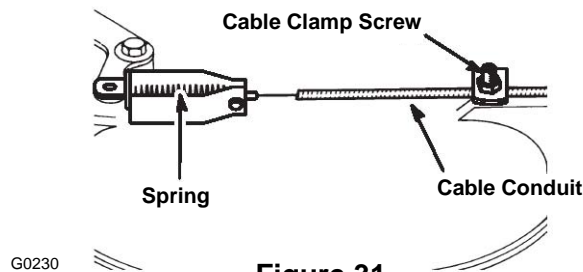

Figure 31
3. Loosen the cable clamp screw until the cable conduit slides (Fig. 31)
3. Loosen the nut on the cable bracket (Fig. 31).
3. Loosen the jam nut on the blade brake cable clamp (Fig. 31).